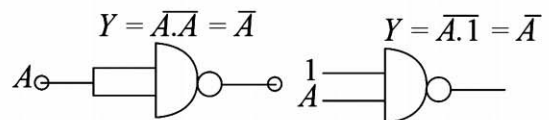
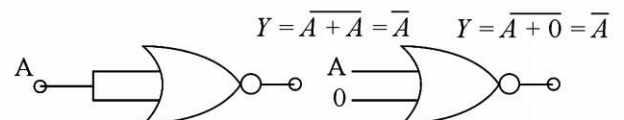

Fig. 19.24
Fig. 19.25 Short both the inputs of NAND to get NOT
**Conversion of gates** Fig. 19.24 shows NOT from NAND. Fig. 19.25 shows NOT from NOR.